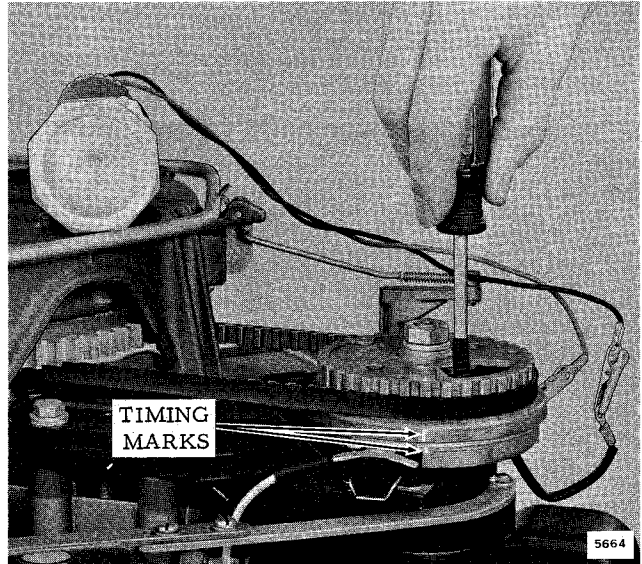

Figure 4-24. Adjusting Breaker Points
d. Loosen breaker point lock screw and turn breaker point adjusting screw so that points close, causing the meter or test light to register a closed circuit. Tighten lock screw. See Figure 4-24.